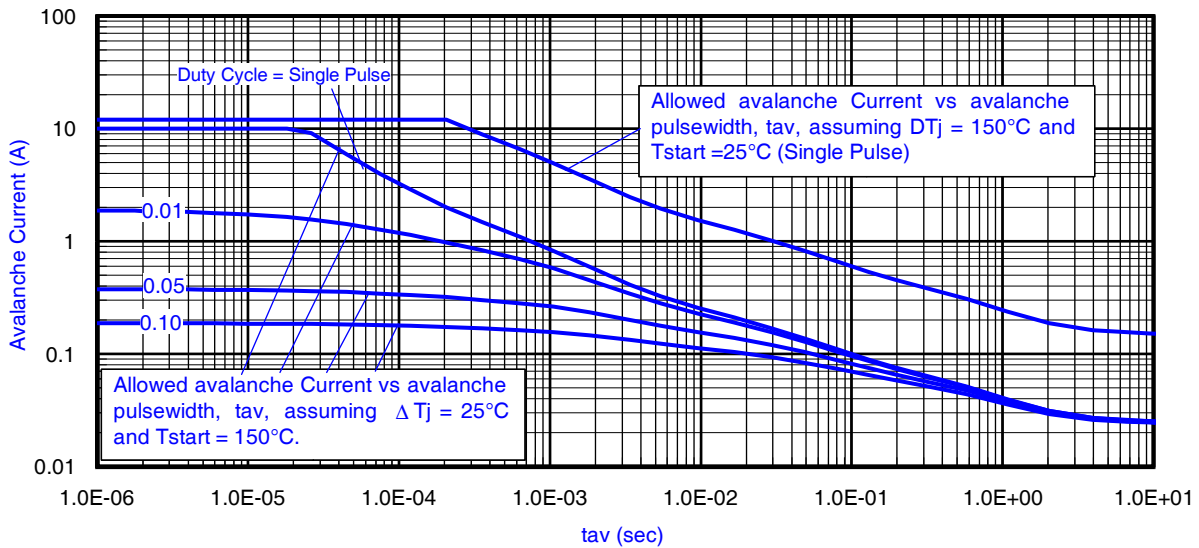

Fig 16. Typical Avalanche Current Vs.Pulsewidth
Notes on Repetitive Avalanche Curves , Figures 16, 17:
7. ΔT = Allowable rise in junction temperature, not to exceed T_{jmax} (assumed as 25°C in Figure 16, 17).